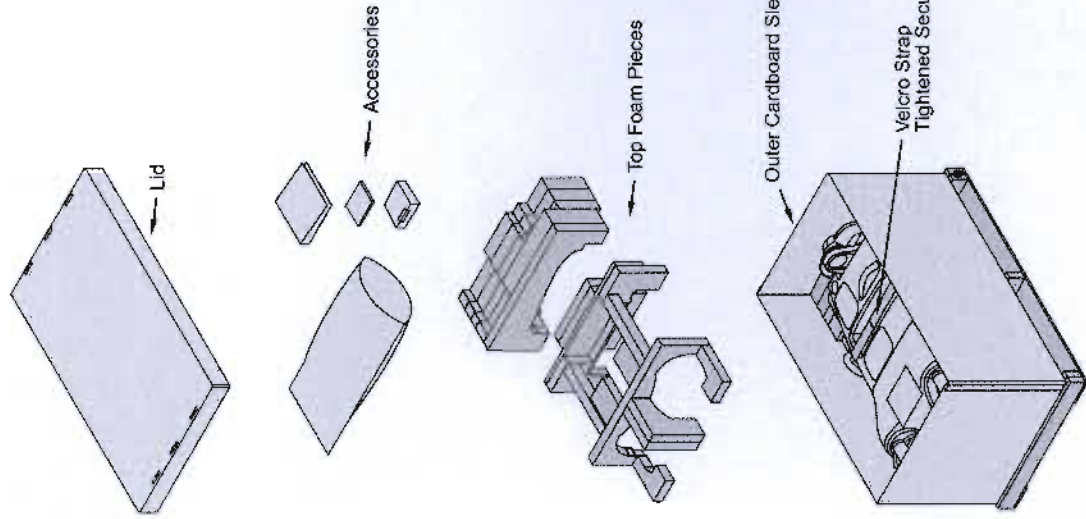

Figure 1-3 Accessories and foam removed from carton.
2. Remove accessories from the carton, then remove two top foam pieces and the outer cardboard sleeve (see Figure 1-3).